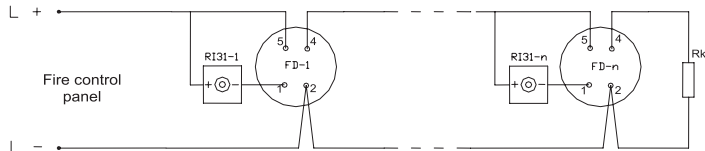
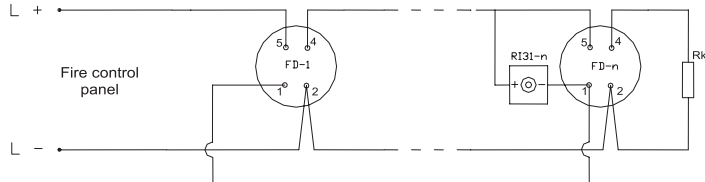

Fig.2
Fig.3
2. Complete the electrical wiring as shown on fig 2. (fig .3), and according to the rational design of the premise.